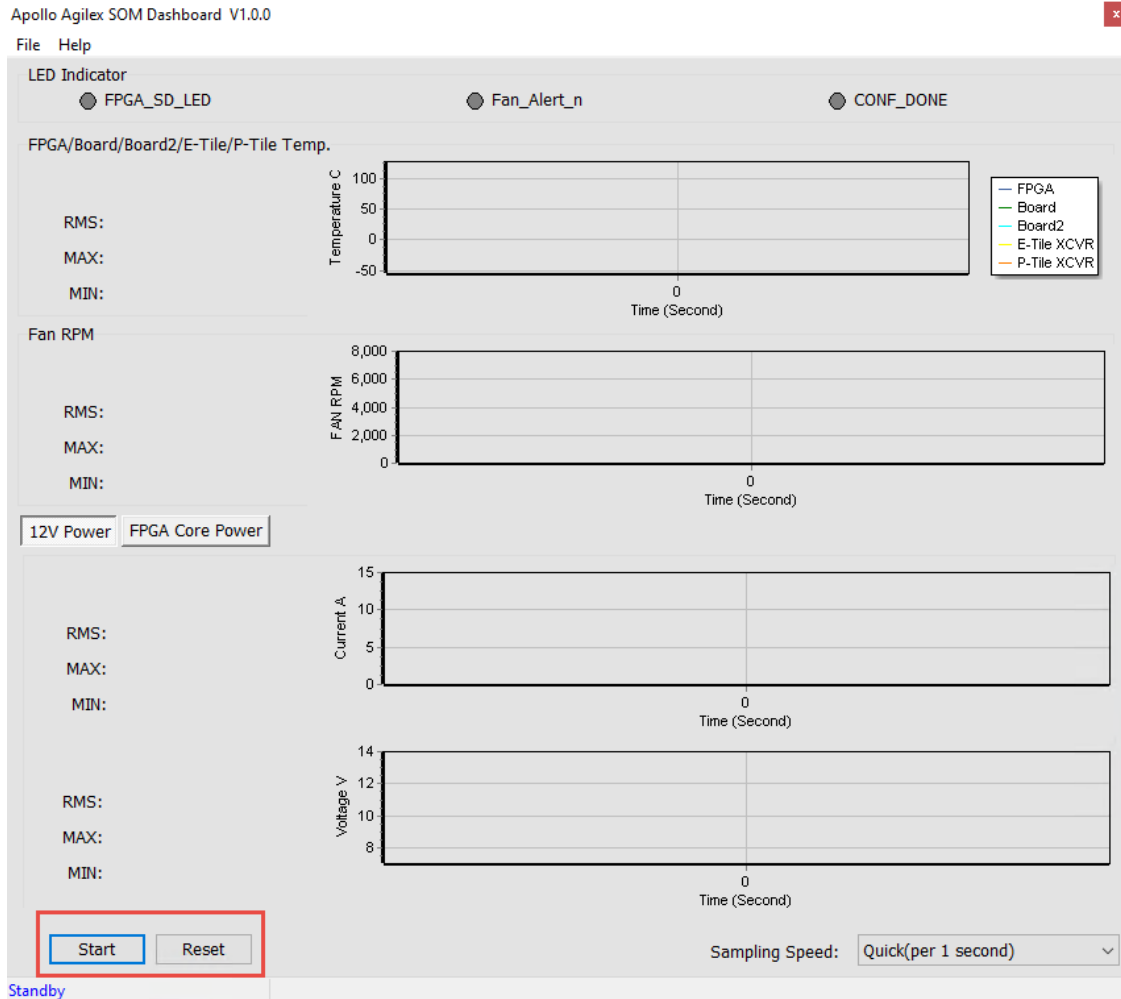

Figure 3-4 Start and Reset button
- **Start/Stop:** As shown in **Figure 3-4**, there is a Start button at the bottom-left of the GUI window. Click it to run the program (Start will change to Stop), it will show the Apollo Agilex board status. Users can press Stop button to stop the status data transmission and display.